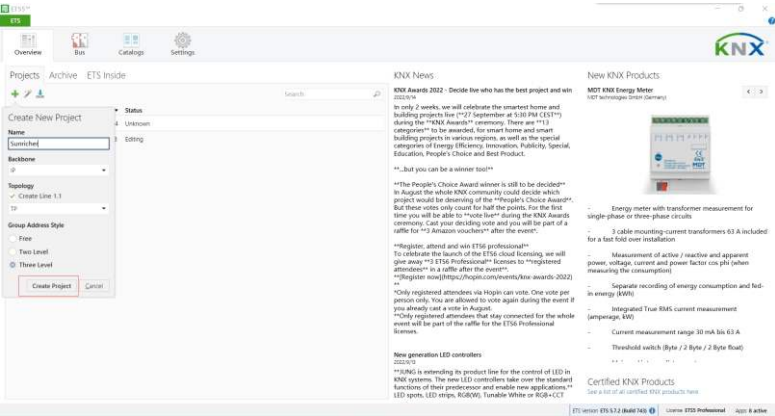

Figure 19
2.6. Click on “Overview” on the top, then click on “Projects” and “+” button to create a new project, fill out the information and then click on “Create Project” as shown in Figure 19.